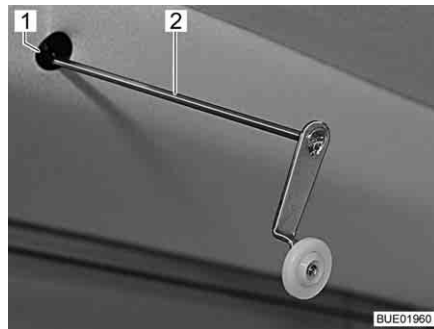

Fig. 123 Crank for emergency operation
- Insert the crank (Fig. 123,2) provided or an Allen wrench into the accommodation (Fig. 123,1) on the motor. The holder is in the cut-out in the surround at the top left of the pull-down bed.